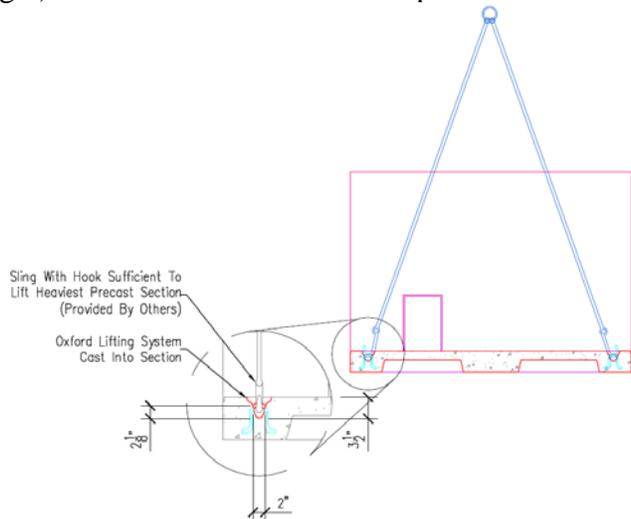

Figure 1 Lifter connection dimensions
- Four way lifting slings/chains with a minimum leg length of 8'-0" and of sufficient capacity to safely handle the precast structures. Lifting slings connect to the base units and end enclosure panels with standard hooks or shackles of sufficient load rating that will fit (Fig 1) in the structures connection points.